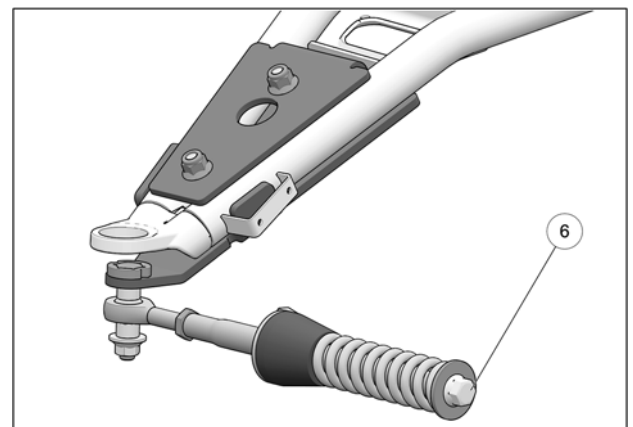

Fig. 19
- Verify that spring assembly bolt (**6**) is tightened to the recommended torque specification: 75 N•m [55 lb•ft]. See Fig. 19